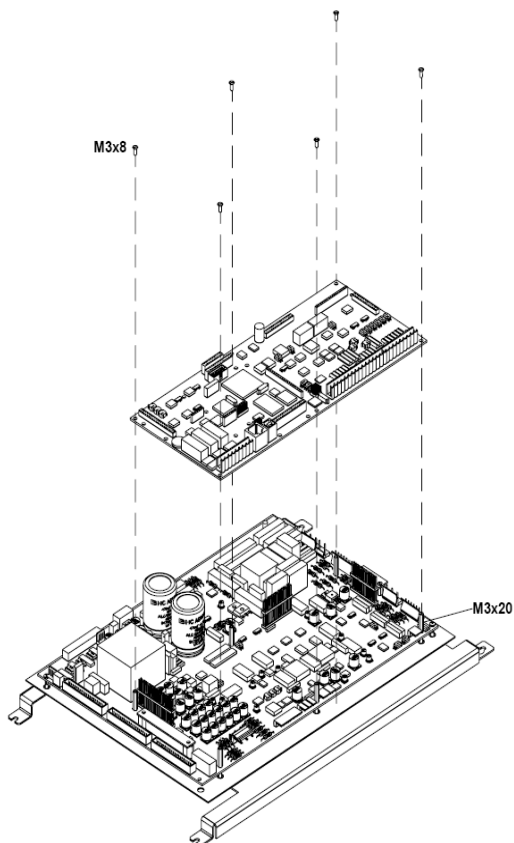

Figure 7.3.5 Remove the control board.
See the figure 7.3.5 while reading the following instructions:
- 4) Put the new control board in the same place than the replaced one, matching the board holes with the hexagonal plastic spacers **M3x20** (see figure 7.3.5).